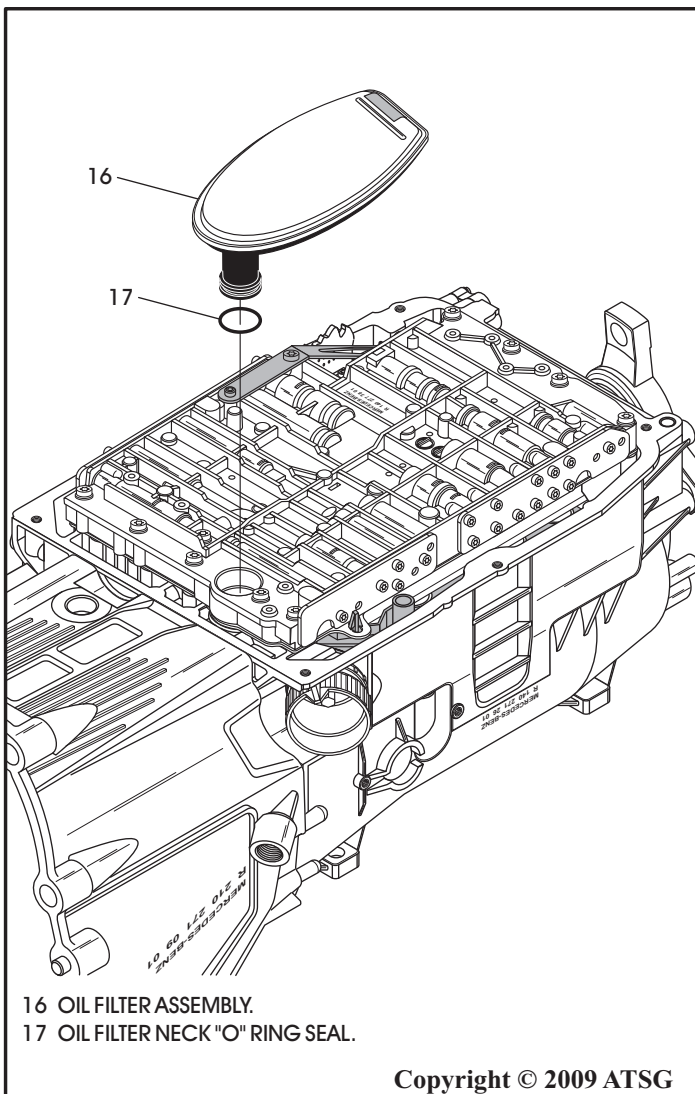

Figure 46
18. Remove the oil filter by pulling straight up, as shown in Figure 46 and discard filter and the "O" ring seal.